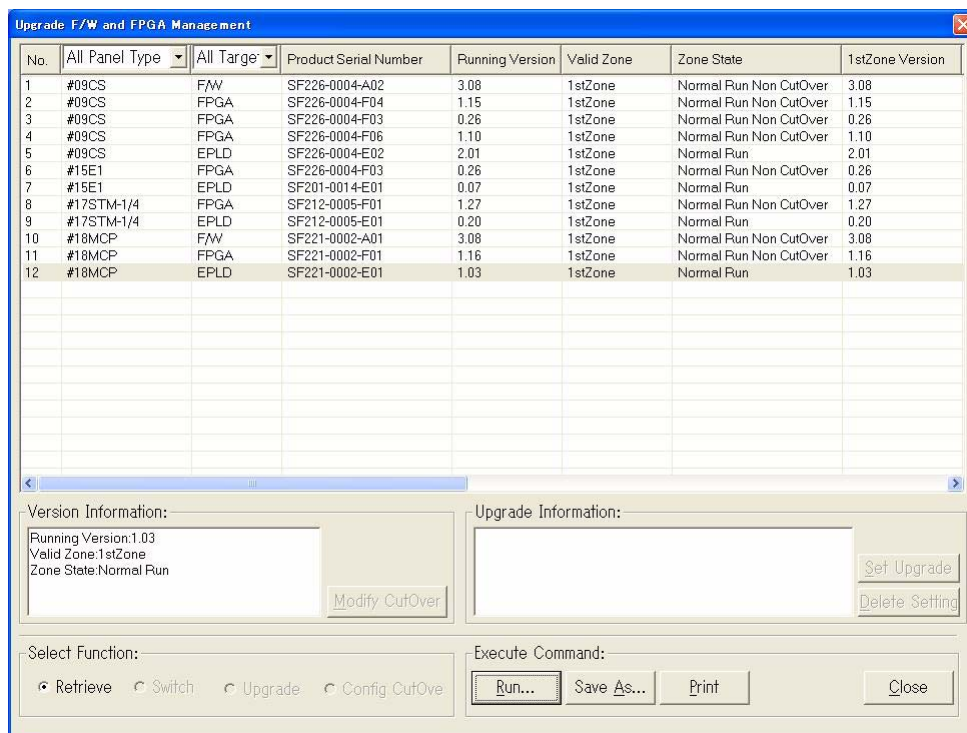

Fig. 4-7-24 Upgrade F/W and FPGA Management Dialog Box
- 3 Select **Upgrade F/W and FPGA** from the **Maintenance** menu. The **Upgrade F/W and FPGA** Management dialog box shown in *Fig. 4-7-24* appears: